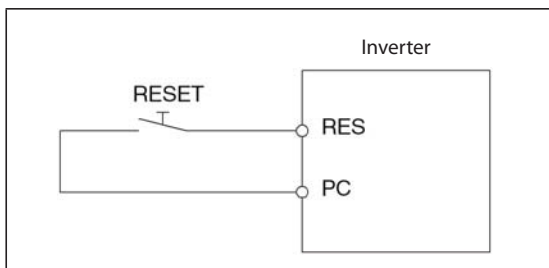

Fig. 7-2:
- Turn on the reset signal RES for more than 0.1s. (Connect the terminals RES and PC as shown in fig. 7-2 when using source logic or terminals RES and SD when using sink logic).